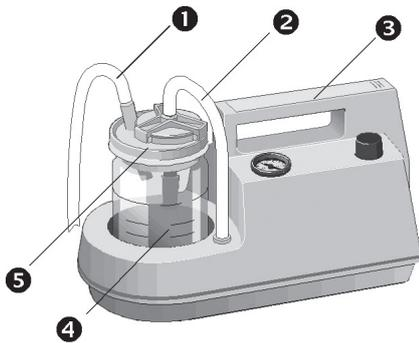

Fig. 7. Atmolit 26
②, Fig. 7 Connection hose, silicone, Ø 6mm, 28 cm	320.0049.0
③, Fig. 7 Top of the handle	320.0005.0